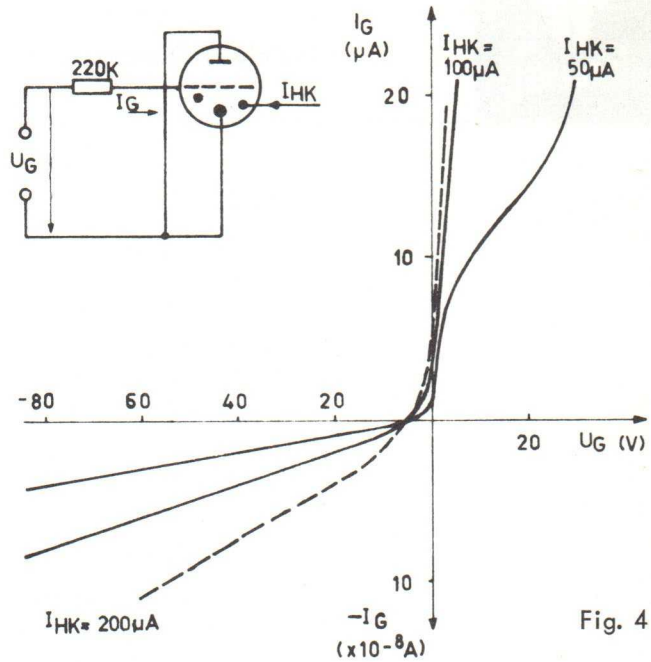

Fig. 4
a) When the anode gap is not fired, the grid acts as a probe in the auxiliary discharge. The magnitude and direction of the probe current depend on the auxiliary cathode current and the voltage between grid and cathode as shown in figure 4.